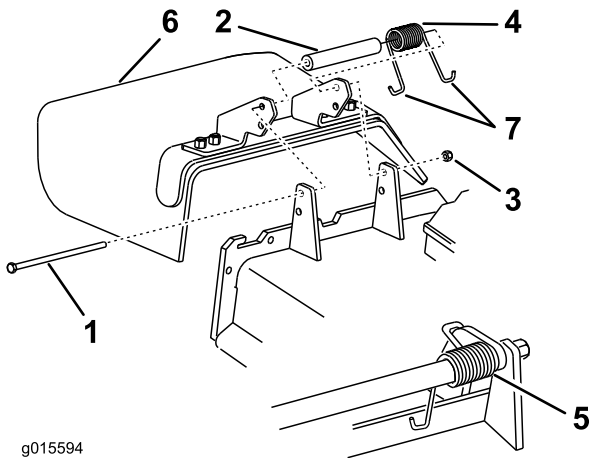

Figure 106
1. Remove the locknut, bolt, spring, and spacer holding the deflector to the pivot brackets (Figure 106). Remove the damaged or worn grass deflector.
**Note:** Make sure one J-end of the spring is installed behind the deck edge before installing the bolt as shown in Figure 106.
3. Install the bolt and the nut. Place one J-hook end of the spring around the grass deflector (Figure 106).